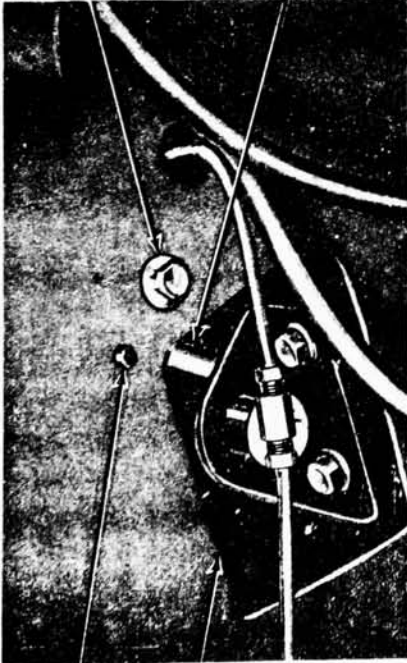

FIG. 13—Removing or Installing the Proportioning Valve
3. Working underneath the left fender, remove the bolt that retains the proportioning valve to the fender apron and remove the valve through the access hole (Fig. 13).
1. From underneath the left fender, install the proportioning valve through the access hole in the fender apron. Position the valve to the apron so that the mounting tang extends through the hole in the fender apron as shown in Fig. 13. Install the retaining bolt.